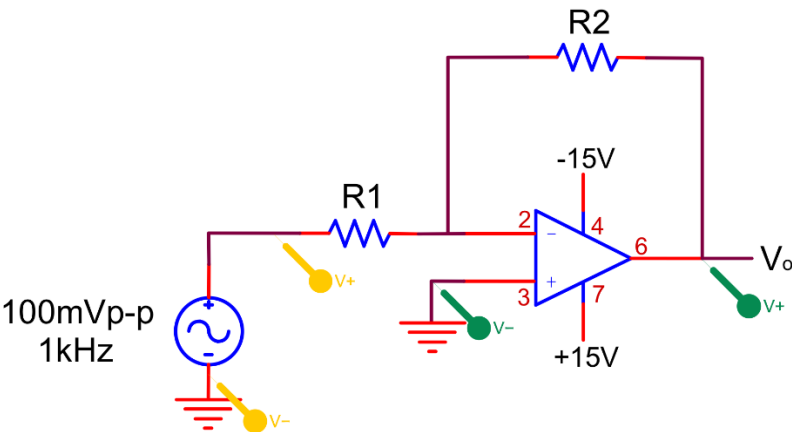

Figure 1.11
1. Build the inverting amplifier (Figure 1.11) with the same resistors used in the lab for a gain of 10. Capture the wave forms of v_i and v_o . Once you have obtained the values calculate the gain and compare it to your measured values.
2. Build the inverting amplifier (Figure 1.11) with the same resistors used in the lab for a gain of 100. Capture the wave forms of v_i and v_o . Once you have obtained the values calculate the gain and compare it to your measured values.
3. Simulate the roll off frequency using the AC Sweep function for both gains of 10 and 100 for Figure 1.11.